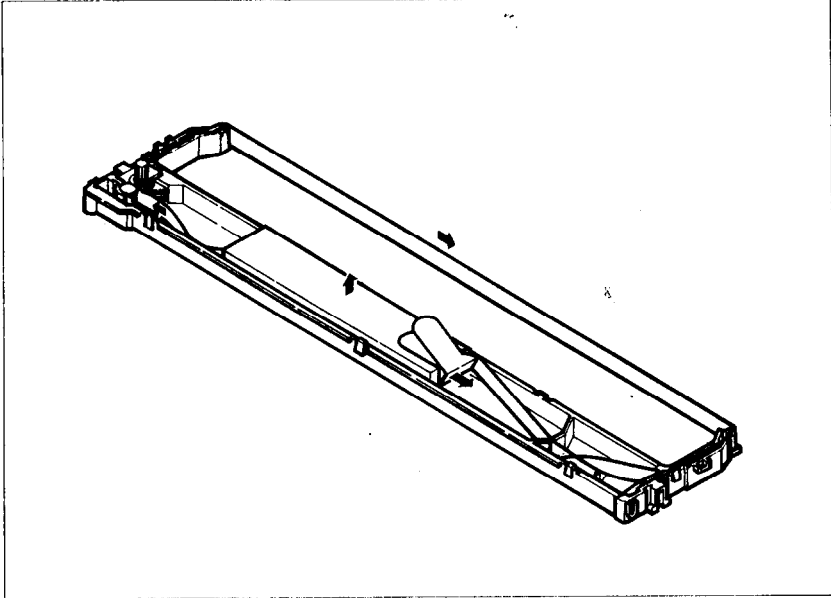

Figure 10-3. Make sure that the ribbon is not twisted when you thread it through its path.
7. Pull out the ribbon and thread it as shown in Figure 10-3. It's easy for the ribbon to get twisted along its path, so be careful.